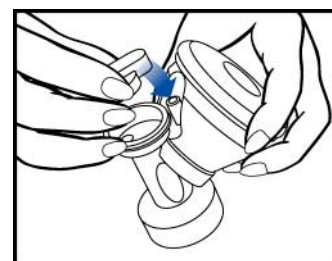

Figure 12
10. To attach Filter Cap, line up the pulsation port with the corresponding hole in the Filter Cap and press firmly in place. See **Figure 12** (edge of Filter Cap Washer should not be visible under bottom edge of Filter Cap. If visible - repeat this step).